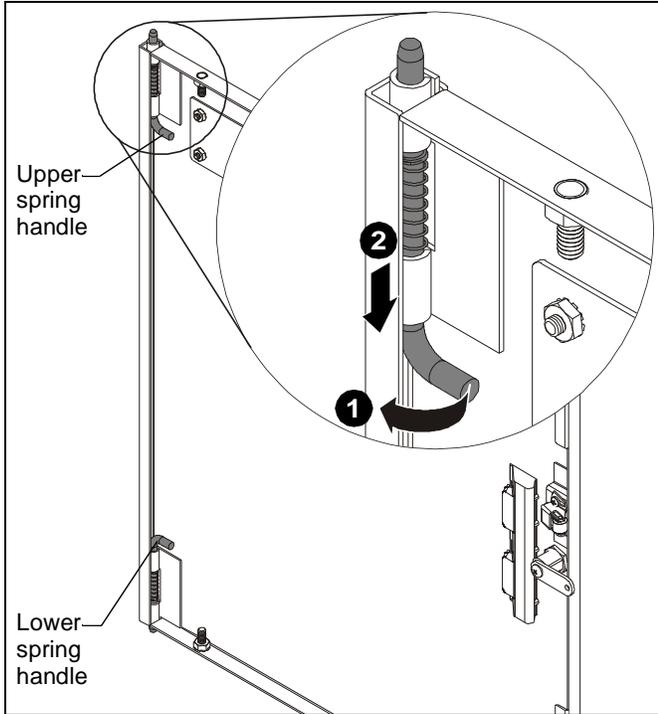

Figure 9
1. Rotate two spring handles (one at bottom and one at top) on inside of door. (See Figure 9)
2. Pull down on upper spring handle, and push up on lower spring handle. (See Figure 9)